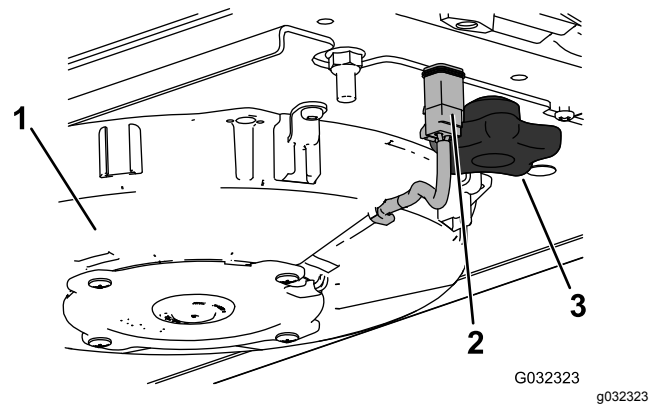
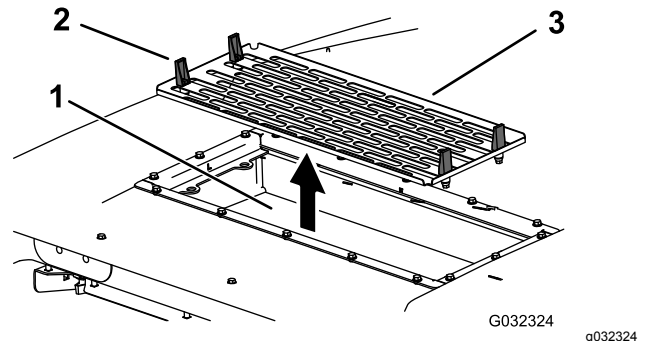

Figure 138
Figure 139
4. Open the 4 latches on the air-conditioning assembly and remove the screen (Figure 139).
2. Disconnect the wire for each fan (Figure 138).
7. Install the air filters, screen, and fan assembly (Figure 136, Figure 138, and Figure 139).
8. Connect the wire for each fan (Figure 138).